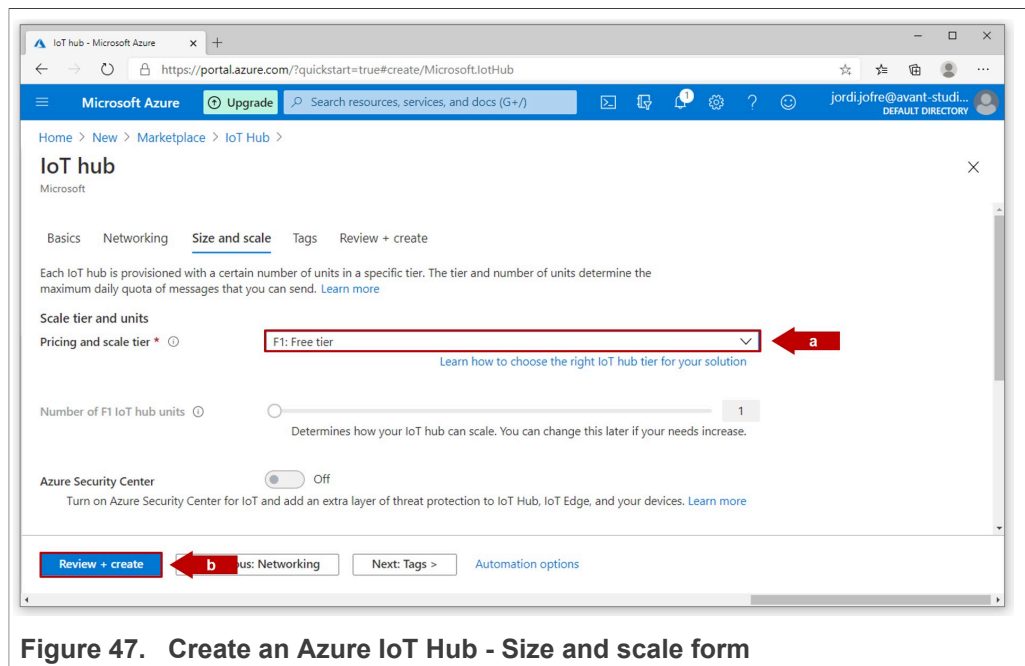

Figure 47. Create an Azure IoT Hub - Size and scale form
- 4. On the **Size and scale** tab, do as shown in Figure 47: